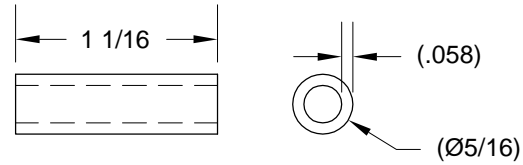
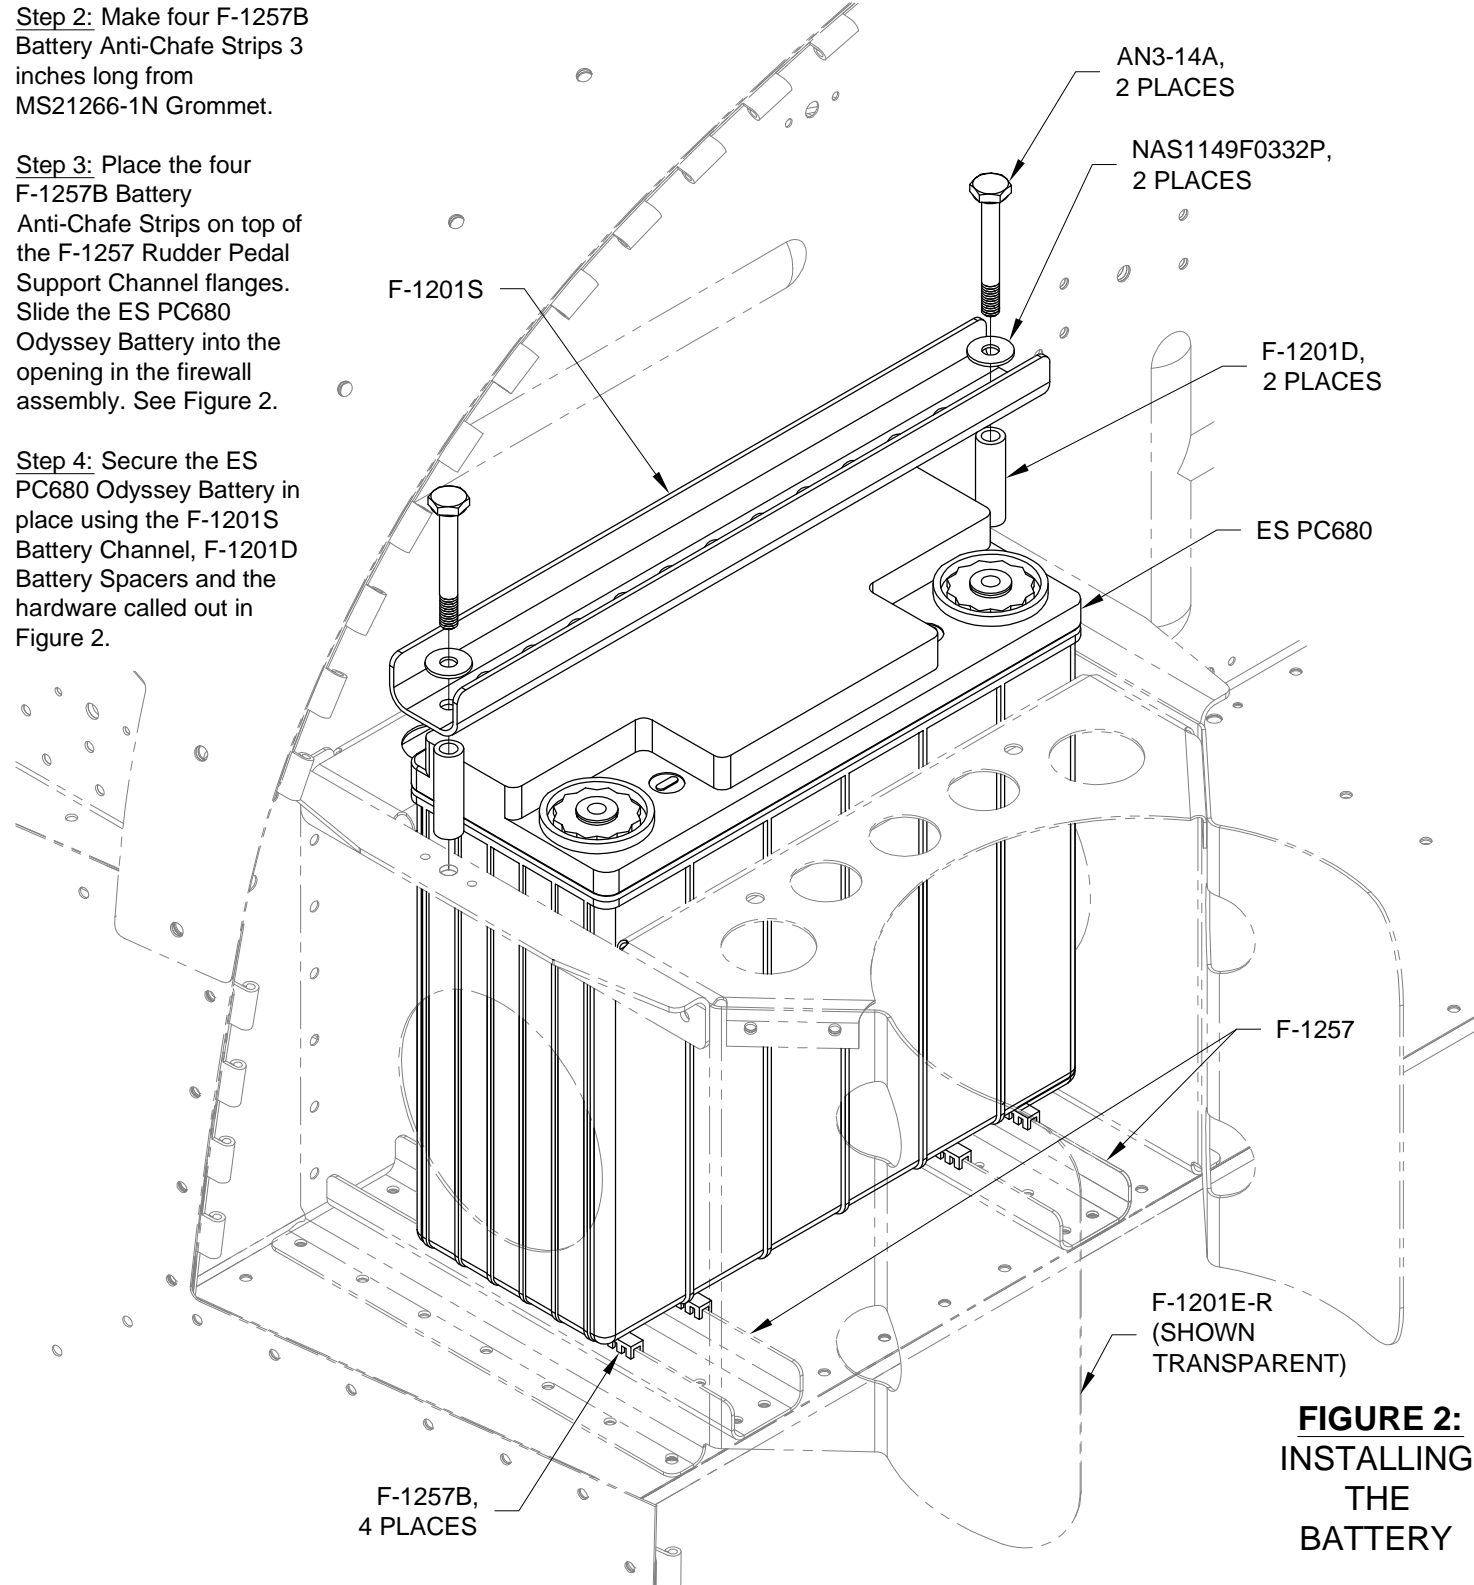

FIGURE 1: MAKING THE BATTERY SPACER
FIGURE 2: INSTALLING THE BATTERY
Page 45A-05 REV 2: Delete Step 1 and Figure 1 that refer to modifying a grommet for firewall penetration. Change Figure 2 references to Figure 1 and update call-out for grommet to part number from previous Figure 1.
Step 1: Make two F-1201D Battery Spacers from .058X5/16 6061-T6 tube per the dimensions in Figure 1.
Step 3: Place the four F-1257B Battery Anti-Chafe Strips on top of the F-1257 Rudder Pedal Support Channel flanges. Slide the ES PC680 Odyssey Battery into the opening in the firewall assembly. See Figure 2.
Step 4: Secure the ES PC680 Odyssey Battery in place using the F-1201S Battery Channel, F-1201D Battery Spacers and the hardware called out in Figure 2.